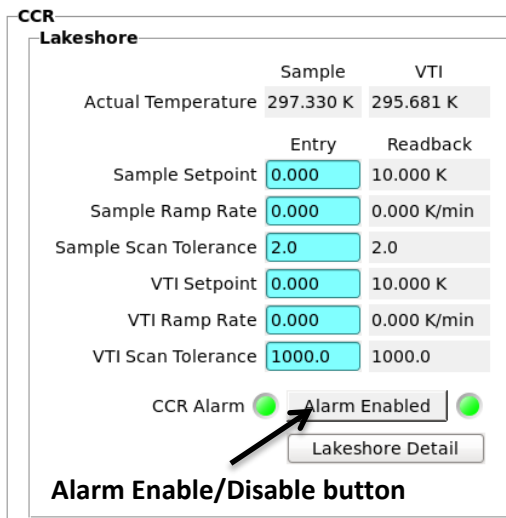

Figure 2. Lakeshore controls on the dashboard.
- c. Turn off all heaters by hitting the red “ALL OFF” button on the front of the LakeShore 336 controller, (Figure 2). The adjacent red lights for Control Outputs 1 & 2 should turn off.